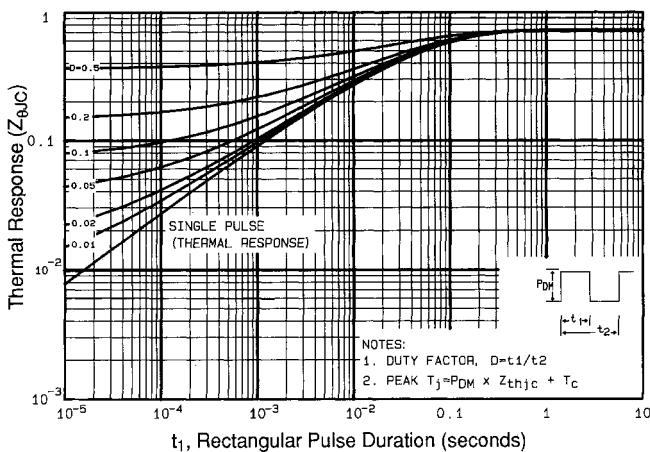

Fig 11. Maximum Effective Transient Thermal Impedance, Junction-to-Case
① Repetitive rating; pulse width limited by max. junction temperature (See Figure 11)
③ $I_{SD}\leq 11\text{A}$, $di/dt\leq 120\text{A}/\mu\text{s}$, $V_{DD}\leq V_{(\text{BR})\text{DSS}}$, $T_J\leq 150^\circ\text{C}$ ② $V_{DD}=50\text{V}$, starting $T_J=25^\circ\text{C}$, $L=8.2\text{mH}$